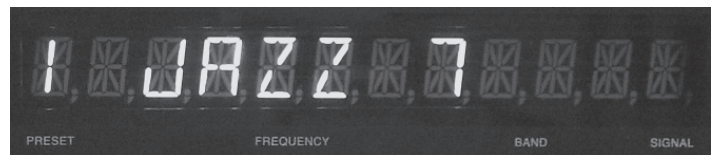

Figure 12
13. Rotate the TUNING Knob clockwise to scroll through the alphabet and numbers until the "7" digit appears. Refer to figure 12.